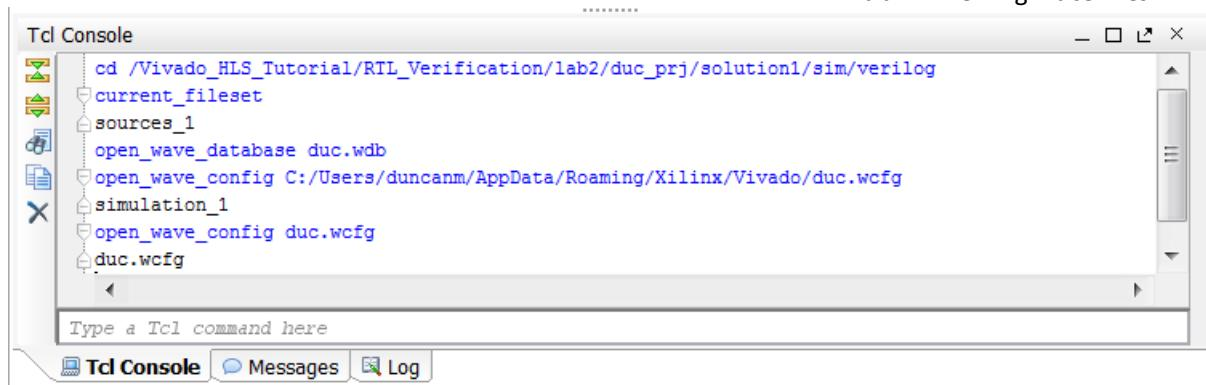

Figure 178 Opening the Trace File in Vivado
2. In the Vivado Tcl Console enter the following commands, as shown in Figure 178. This example assumes the top-level tutorial directory is C:\Vivado_HLS_Tutorial :